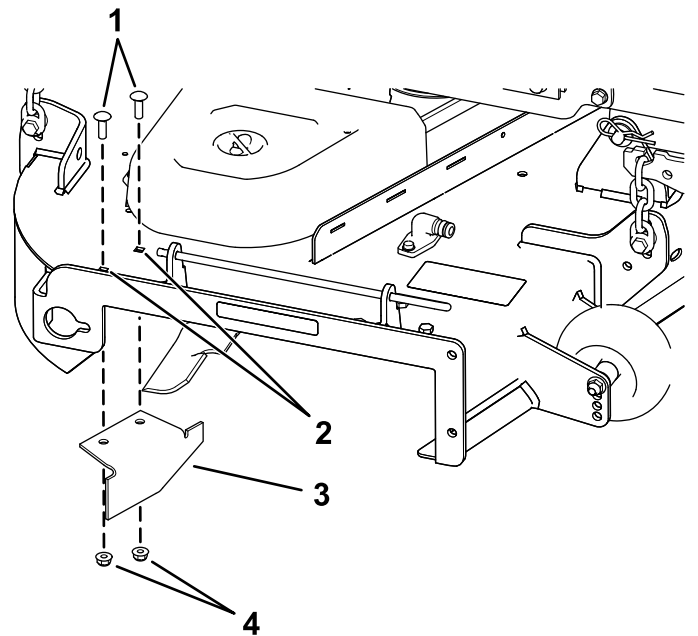

Figure 19
14. Locate the cutoff baffle in the loose parts bag, remove the fasteners at the rear holes of the discharge plate, and install the baffle at the side-discharge opening on the mower deck (Figure 19).